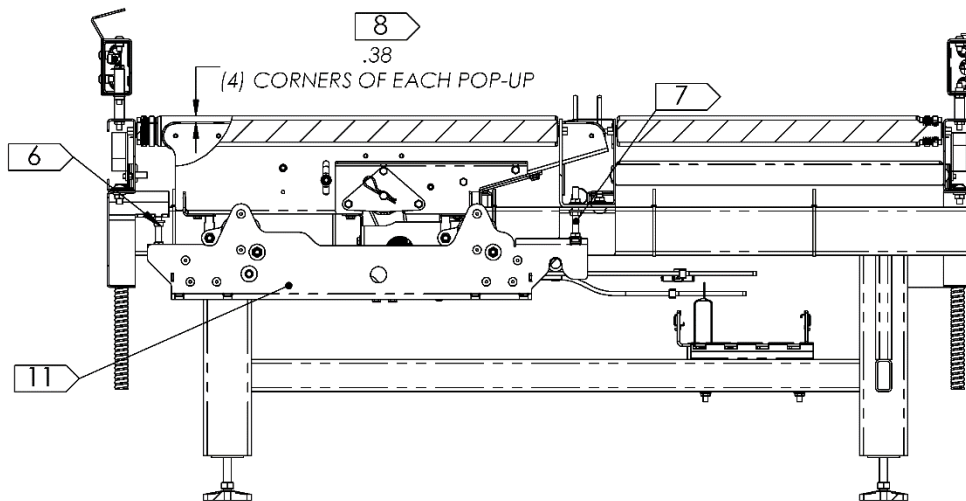

Figure 11-Leveling an Installed Pop-Up Transfer
5. Vertical height adjustment of the pop-up transfer is provided by the (4) bolts that the transfer hangs from. On the outboard side, this adjustment is separate from the horizontal position adjustment.
6. Measure the height of the blade belt surface with respect to a straightedge laid on the top roller surface of the pick zone. Take measurements at all (4) corners and adjust the height until all (4) measurements are  $3/8'' \pm 1/16''$ .
- a. See Figure 11 for an example measurement location.